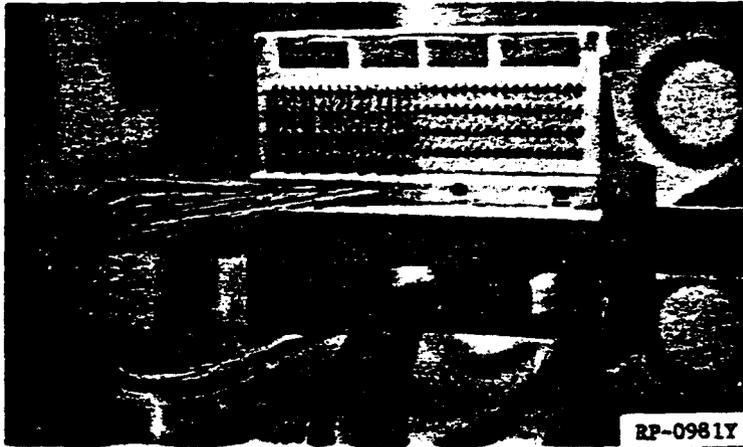
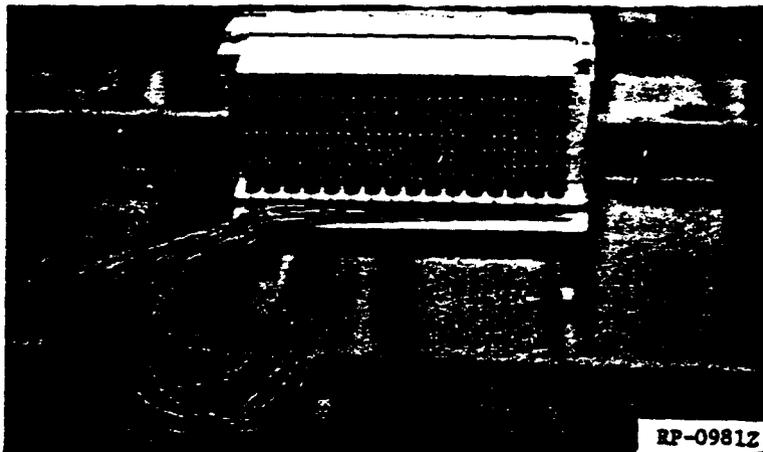

FIG. 6 CABLE LEADS DRESSED TO LEFT SIDE
FIG. 7 TYPE II BLOCK COMPLETELY TERMINATED
5.311 After the first pair of leads has been connected to their respective terminals, dress that pair of leads down through the proper fanning strip slot and then toward the left side (horizontally mounted). See Figure 6. Each two vertical terminal rows utilize one fanning strip slot. Proceed to connect and dress all leads down and to the left until the block is completely wired, (see Figure 7) and then proceed with the cable lead forming and protection operation.